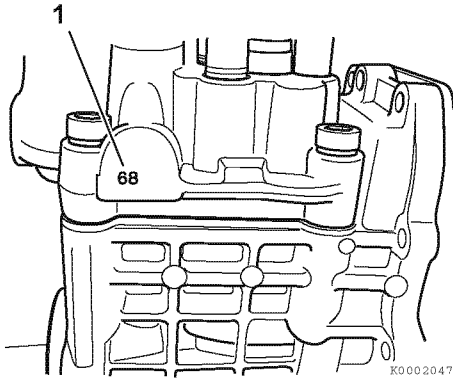

Figure 7-24
- Calculate the difference between the timing index numbers (**Figure 7-24, (1)**) of the fuel injection pump that you removed and the replacement fuel injection pump. See *Calculation example below*.